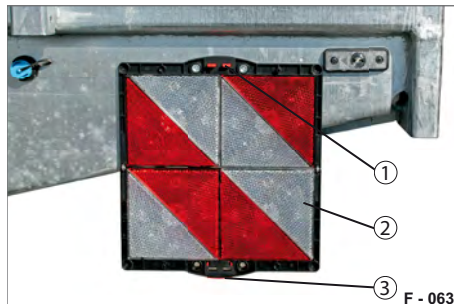

Fig. 92 Example: park warning sign
- Press the press-catch (Fig. 92/3) and fold down the top half of the warning sign.
The press-catch (Fig. 92/3) automatically engages in the lock (Fig. 92/1).